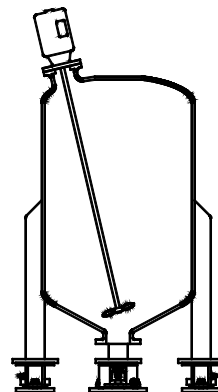

Figure 6-8: Tank Scale, Stirred
- **Tank Scale, Stirred:** Some tanks have a low-powered mixer with a power rating of 1.5 kW (2 hp) or less. The liquid is stirred with a small marine-type impeller, typically not more than 150 mm (6 inches) in diameter. With suitable filtering software on the indicator, this application typically does not require stabilizers even if stirring occurs during weighing (see Figure 6-8).